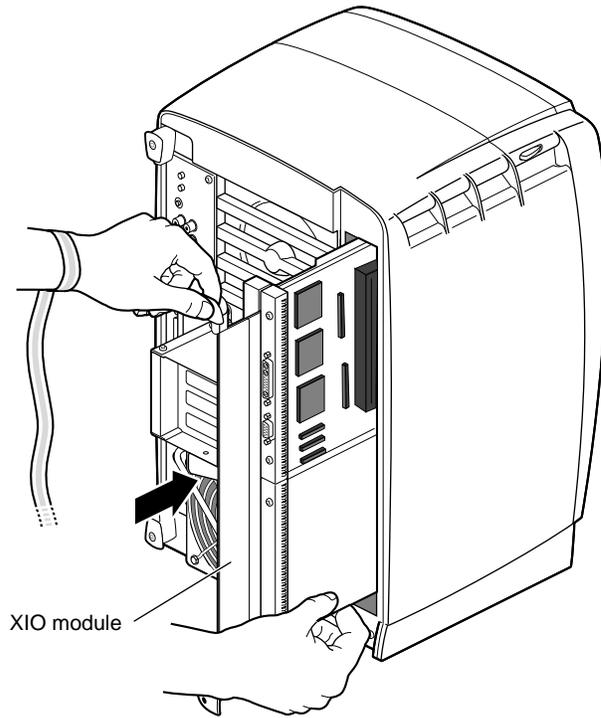

Figure 1-17 Replacing the XIO Module
2. Before you insert the XIO module, make sure the handle portion protrudes in a locked position from the I/O panels, as shown in Figure 1-17.